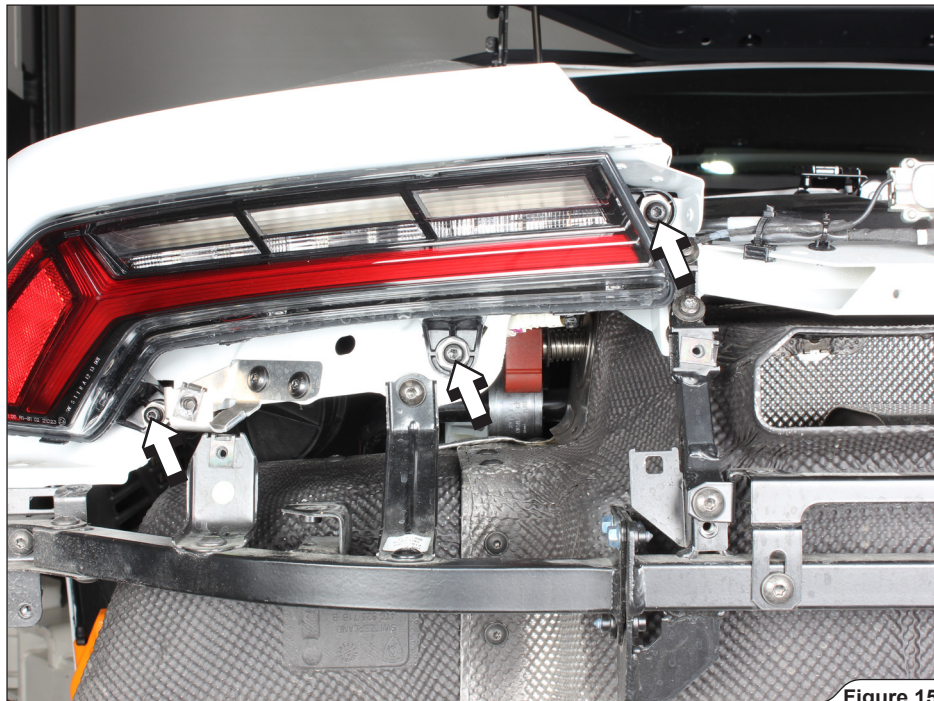

Figure 15
10. Unscrew the marked bolts on both sides of the vehicle, disconnect the tail lights' electrical connectors, and remove the tail lights off the vehicle (**Figure 15, 16**).